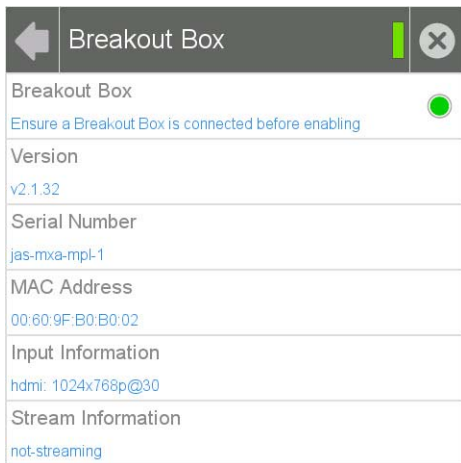

FIG. 8 Breakout Box Settings page
2. From the *Connections & Networks* page, select *Breakout Box* to open the *Breakout Box* page (FIG. 8).